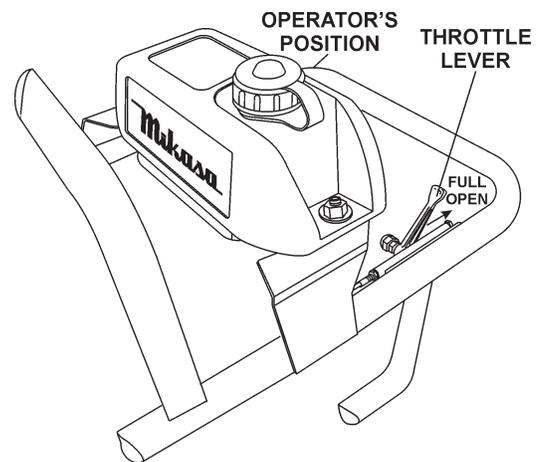

Figure 12. Throttle Lever (Full Open)
- To start the rammer tamping action, move the throttle lever (Figure 12) **quickly** from **IDLE** (close) to the **FULL OPEN** position. **DO NOT** move the throttle lever slowly as this may cause damage to the clutch or spring.